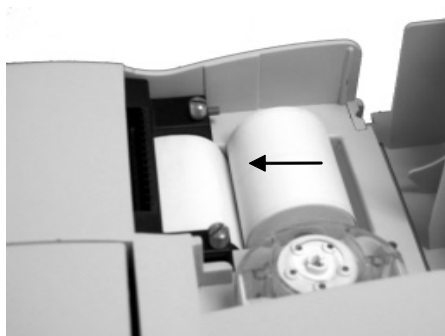

Fig. 2-7 Inserting Printer Paper
- With the OPTI R switched on, thread the paper into the feeder slot, as shown in the diagram, on the analyzer (Fig. 2-7).